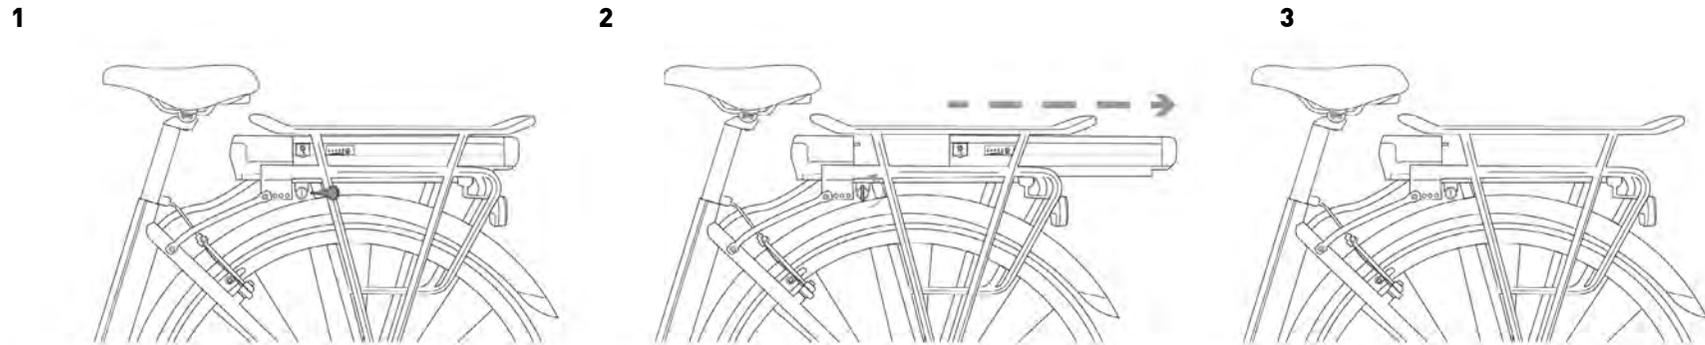

FIG. 8
1. Insert the battery release key in the slot in the left front part of the luggage rack (Ref. 1 in Figure 8) and turn it counter-clockwise until the release click occurs;
2. Remove the battery, acting on the appropriate handle at the rear of the same, taking care not to exert excessive force (Ref. 2 in Figure 8);
3. Remove the key (key 3 in figure 8).